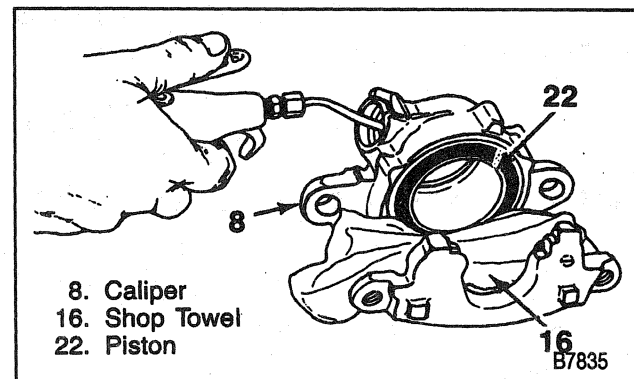

Figure 15—Removing the Piston
- Direct compressed air into caliper fluid inlet (Figure 15).